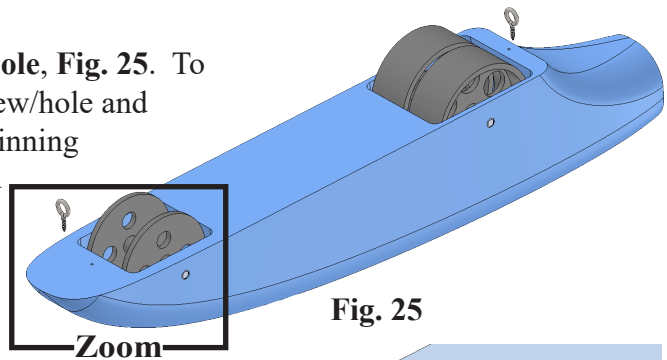

Fig. 25
Step 1. Zoom in around **front Eye Screw and hole**, Fig. 25. To zoom, place the cursor over the Eye Screw/hole and spin the wheel on mouse back. While spinning the wheel keep cursor on Eye Screw and hole.